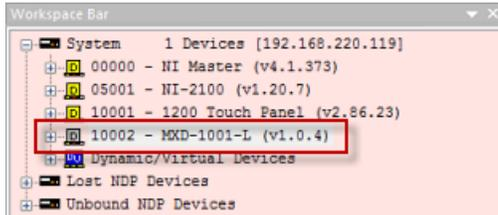

FIG. 30 NetLinx Studio v3.4 or higher - Device Tree indicating a G5 (MXD-1001-L) Panel
1. In NetLinx Studio's Device Tree, select the target G5 Panel for the firmware download (FIG. 30):